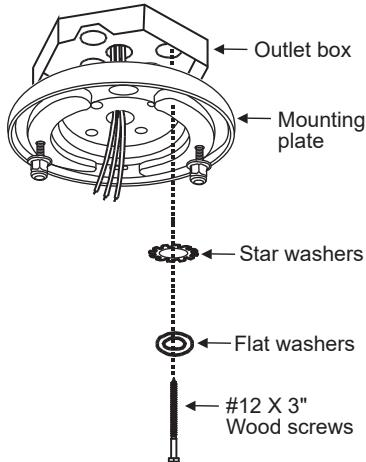

Fig. 5
2. Use the two #12 X 3" wood screws and washers to secure the mounting plate directly to the building joist via the knockout holes from the outlet box. (Fig. 5)